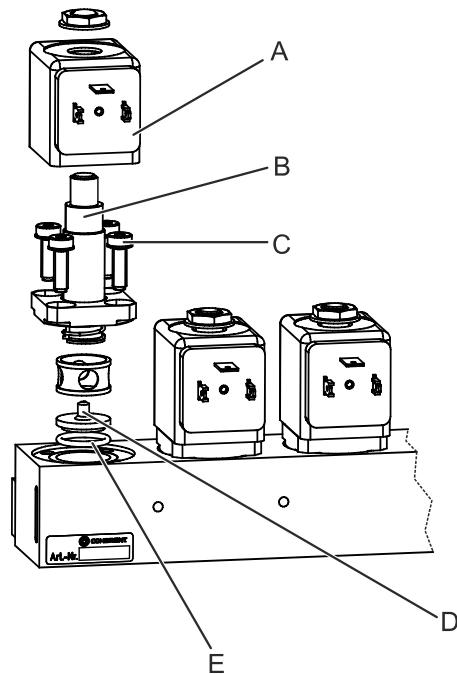

Figure 105: Repairing a buffer valve
2. Use the 14 mm wrench to remove the solenoid (see Figure 105, A) from the valve that is to be repaired.